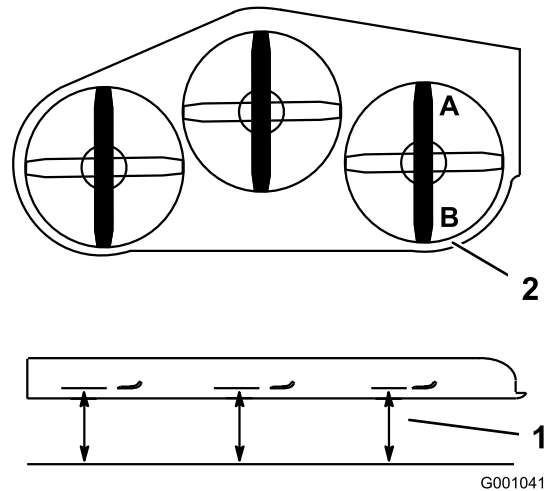
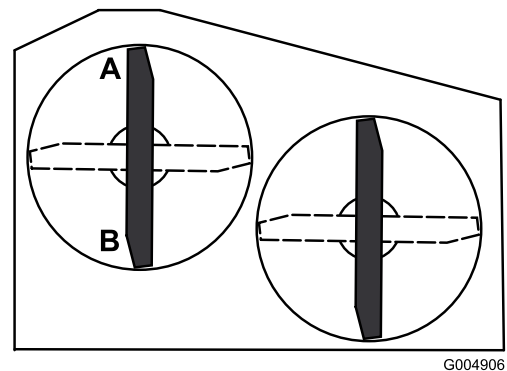

Figure 82
Figure 83
2. Position one blade front-to-rear. Measure at **A** and **B** locations from a level surface to the cutting edge of the blade tips (Figure 82 or Figure 83). For 36 inch mower decks use Figure 83.
4. Position the blades front-to-rear. Measure at C and D locations (Figure 82) from a level surface to the cutting edge of the blades.